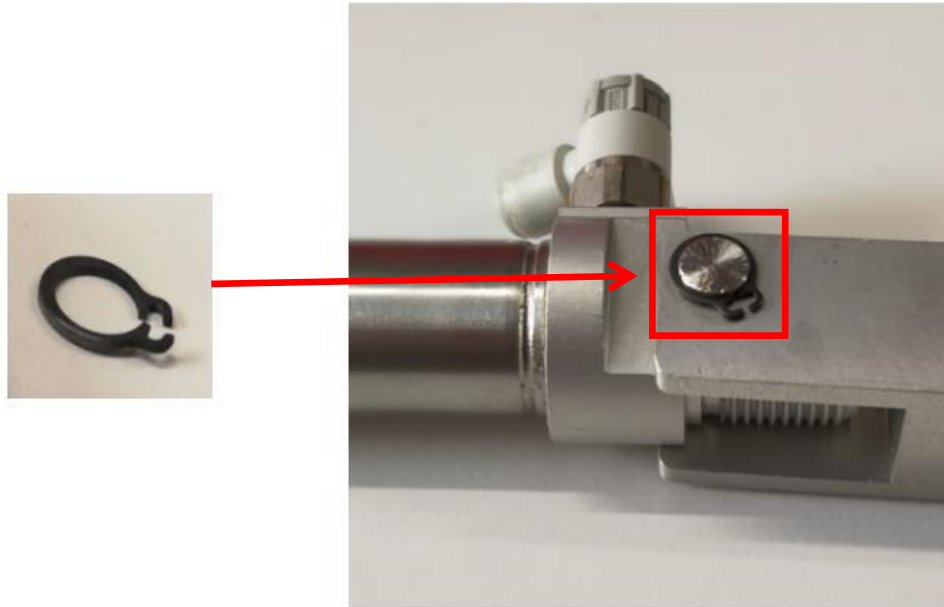

Figure 16
20. Twist the Rear Cylinder Holder & assemble C-Clip at other side of Dowel Pin as Figure 16.